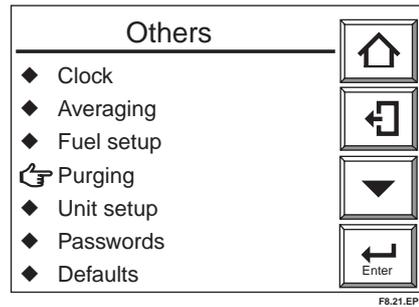

Figure 8.21 Other Settings
- (1) Press the Setup key in the basic panel display to display the Execution/Setup display.
- (2) Select Setup in the Execution/Setup display. The “Commissioning” (Setup) display then appears.
- (3) Select Others in that display and the Others display then appears, as shown in Figure 8.21.